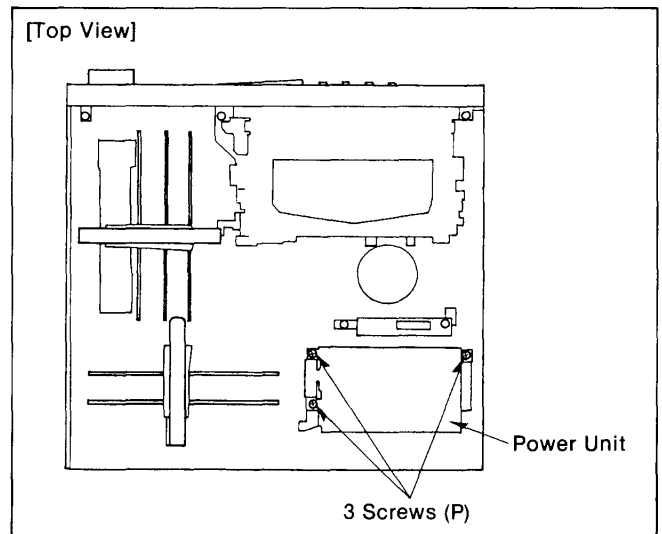

Figure D15
1. Unscrew the 3 screws (P) on the Power Unit (Figure D15).